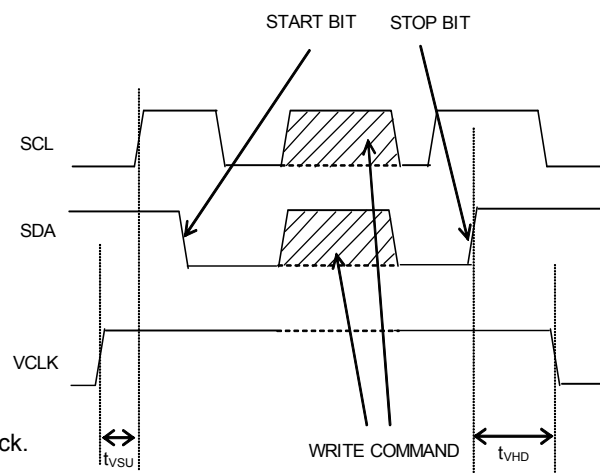

Fig.5 Write Enable Timing
- When using the BR24C21/F/FJ/FV in Bi-directional Mode, the VCLK pin can be used as a write enable pin. Setting VCLK High allows normal write operations, while setting VCLK low prevents writing to any location in the array. (See Fig.5 Write Enable Timing)